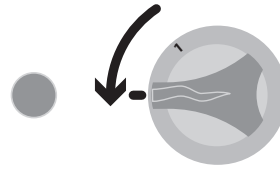

Fig. 7
1. Turn the switch-on knob to "1". When the green light is on it means the operation is in progress (Fig. 7).